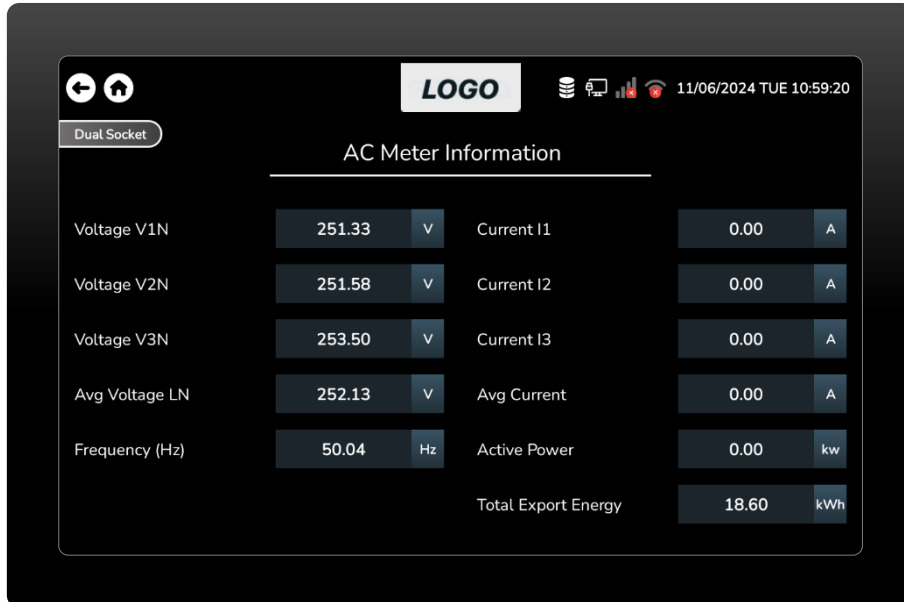

Figure 25 AC Meter Information Screen.
- This is the AC meter information screen. The user can view information such as three phase voltage and current, average voltage and current, frequency, active power, and total export energy. (Figure 25)